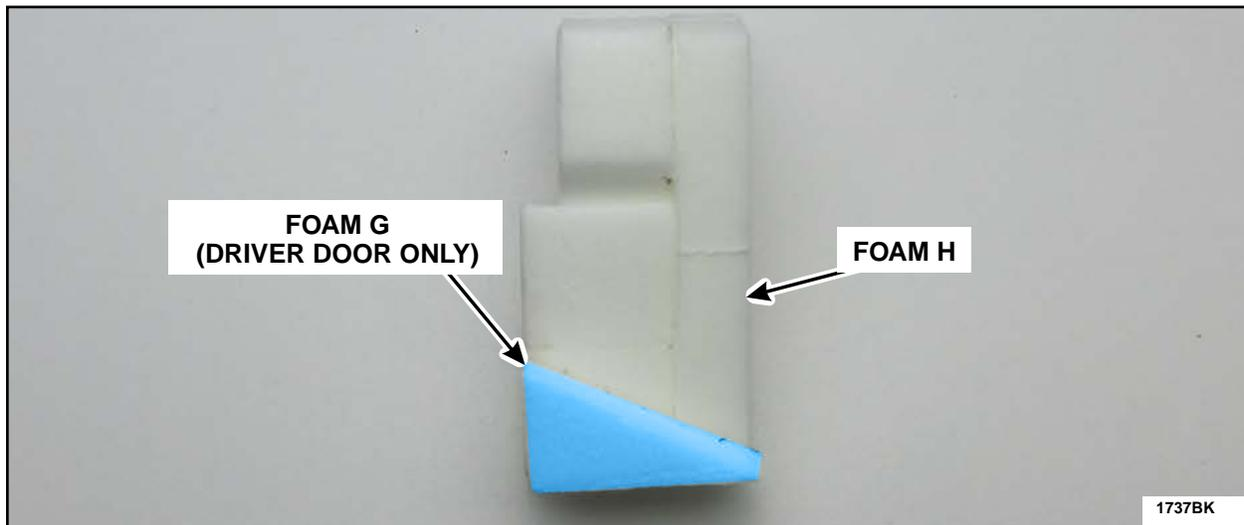

FIGURE 31
1. For driver door latch only, attach Foam G to Foam H. See Figure 31.